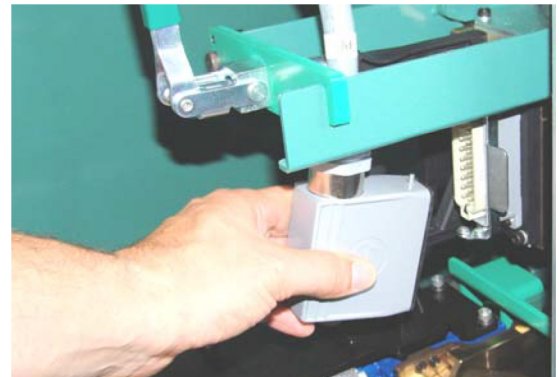

Figure 4-10: Sealer Module Quick-Connect Cable
1. To remove the sealer module, first release the electrical quick-connect cable (**Figure 4-10**).